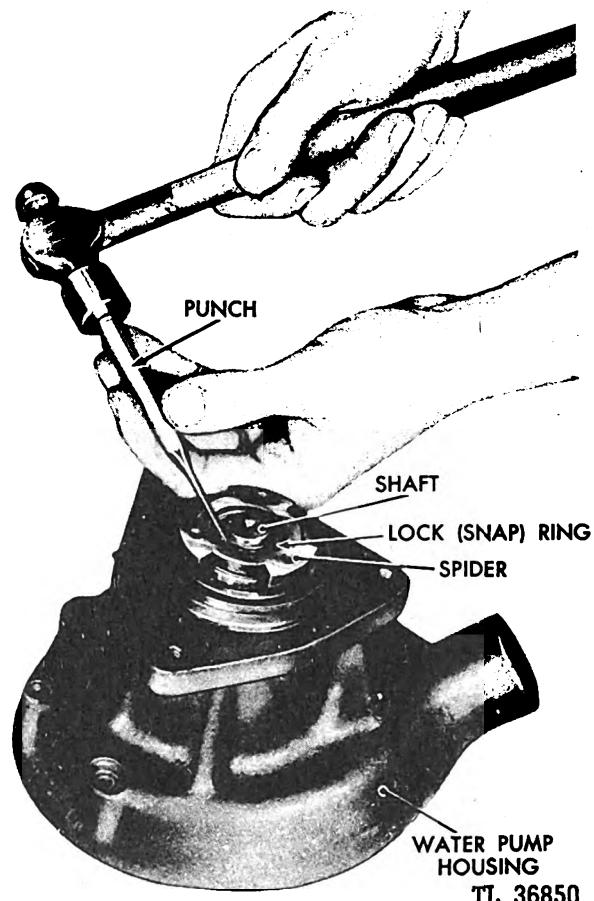

Fig. 198. Removing Clip from Water Pump Shaft
a. Disassembly. (1) Remove the clip and the spider from the water pump shaft. (See Figure 198.)
or locking ring in the groove provided for it on the shaft. (See Figure 198.)